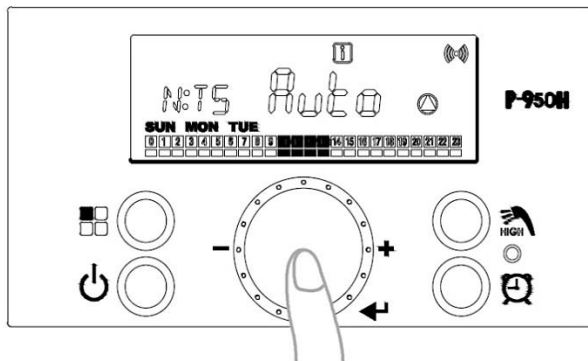

Figure 50 – Set Auto-Learn Recirculation Function
- Turn the dial button at the “Pro1”, “Pro2”, “Pro3”, or “PULS” screens to select a Recirculation Function. See Figure 50 A. Press the  button to select the mode.
- Press the  button to enter the day setting. See Figure 50 B.